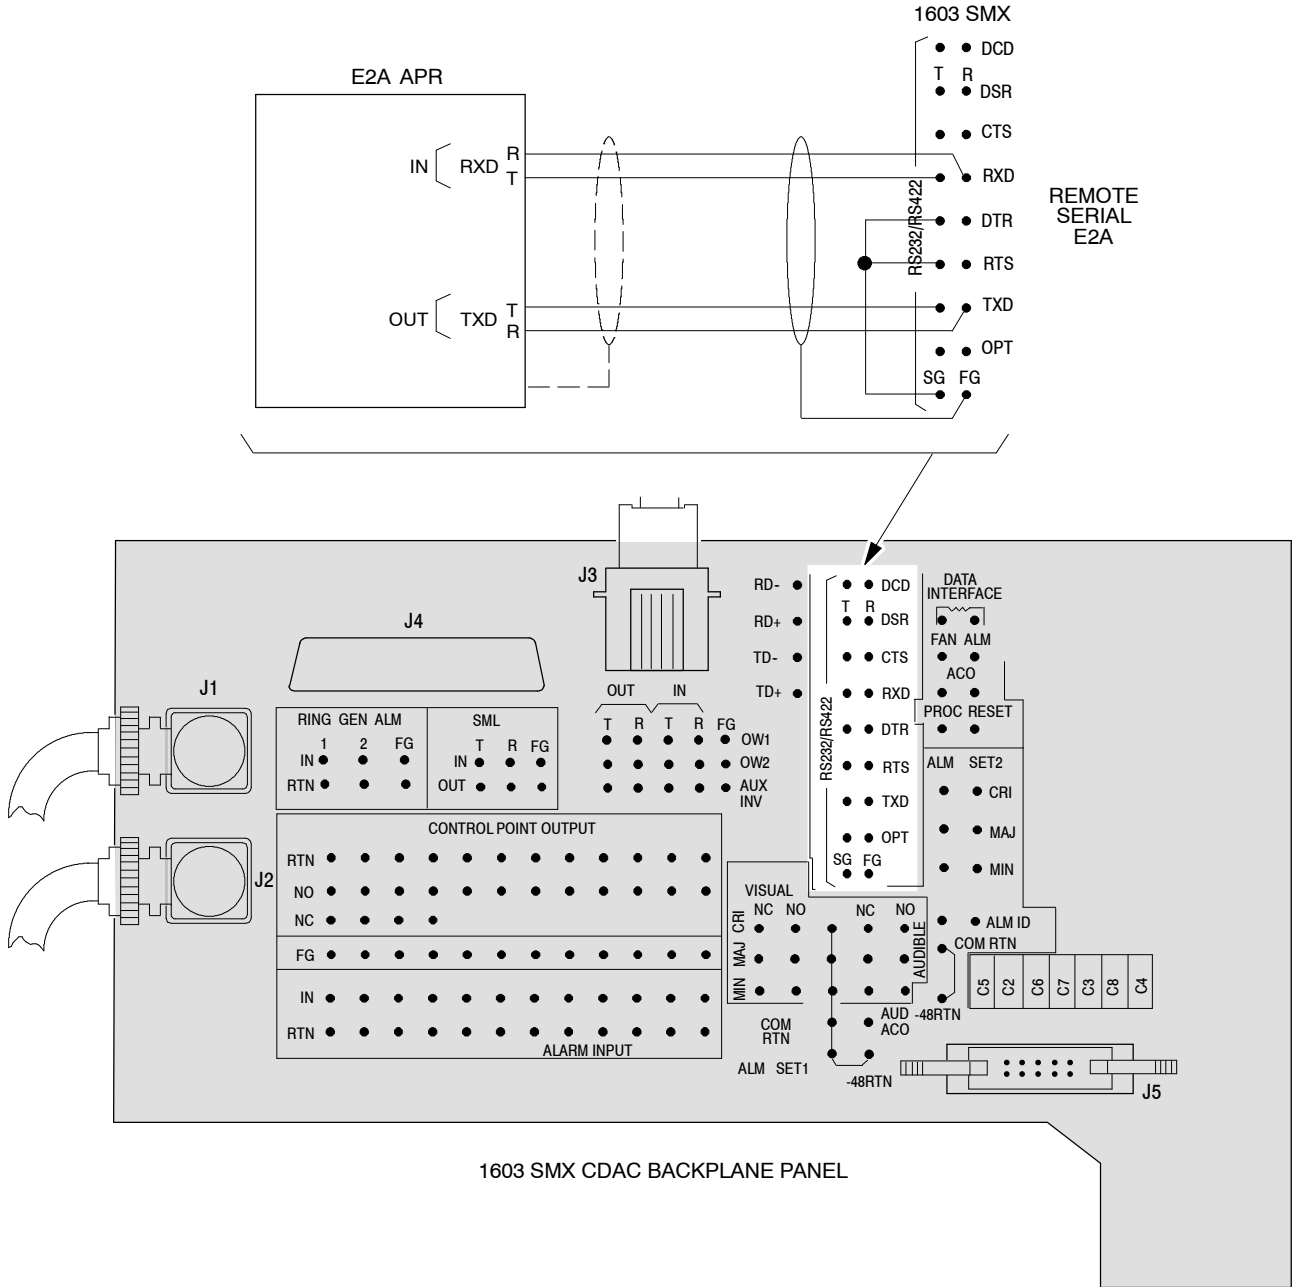

Figure 4. Typical Direct NE to TBOS Wiring
- 17** Per Figure 4, verify that wire pairs properly terminate between backplane and TBOS subsystems.
- 18** Per Figure 4, verify that wire-wrap jumpers are in place between DTR-T, RTS-T and SG pins.